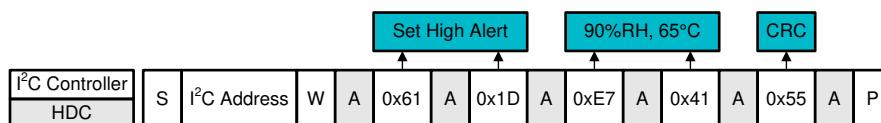

图 7-18. I²C Command Sequence: Example Programming of Set High Alert to 90% RH, 65°C
- a. 图 7-18 illustrates the appropriate command to send to the HDC302x-Q1.